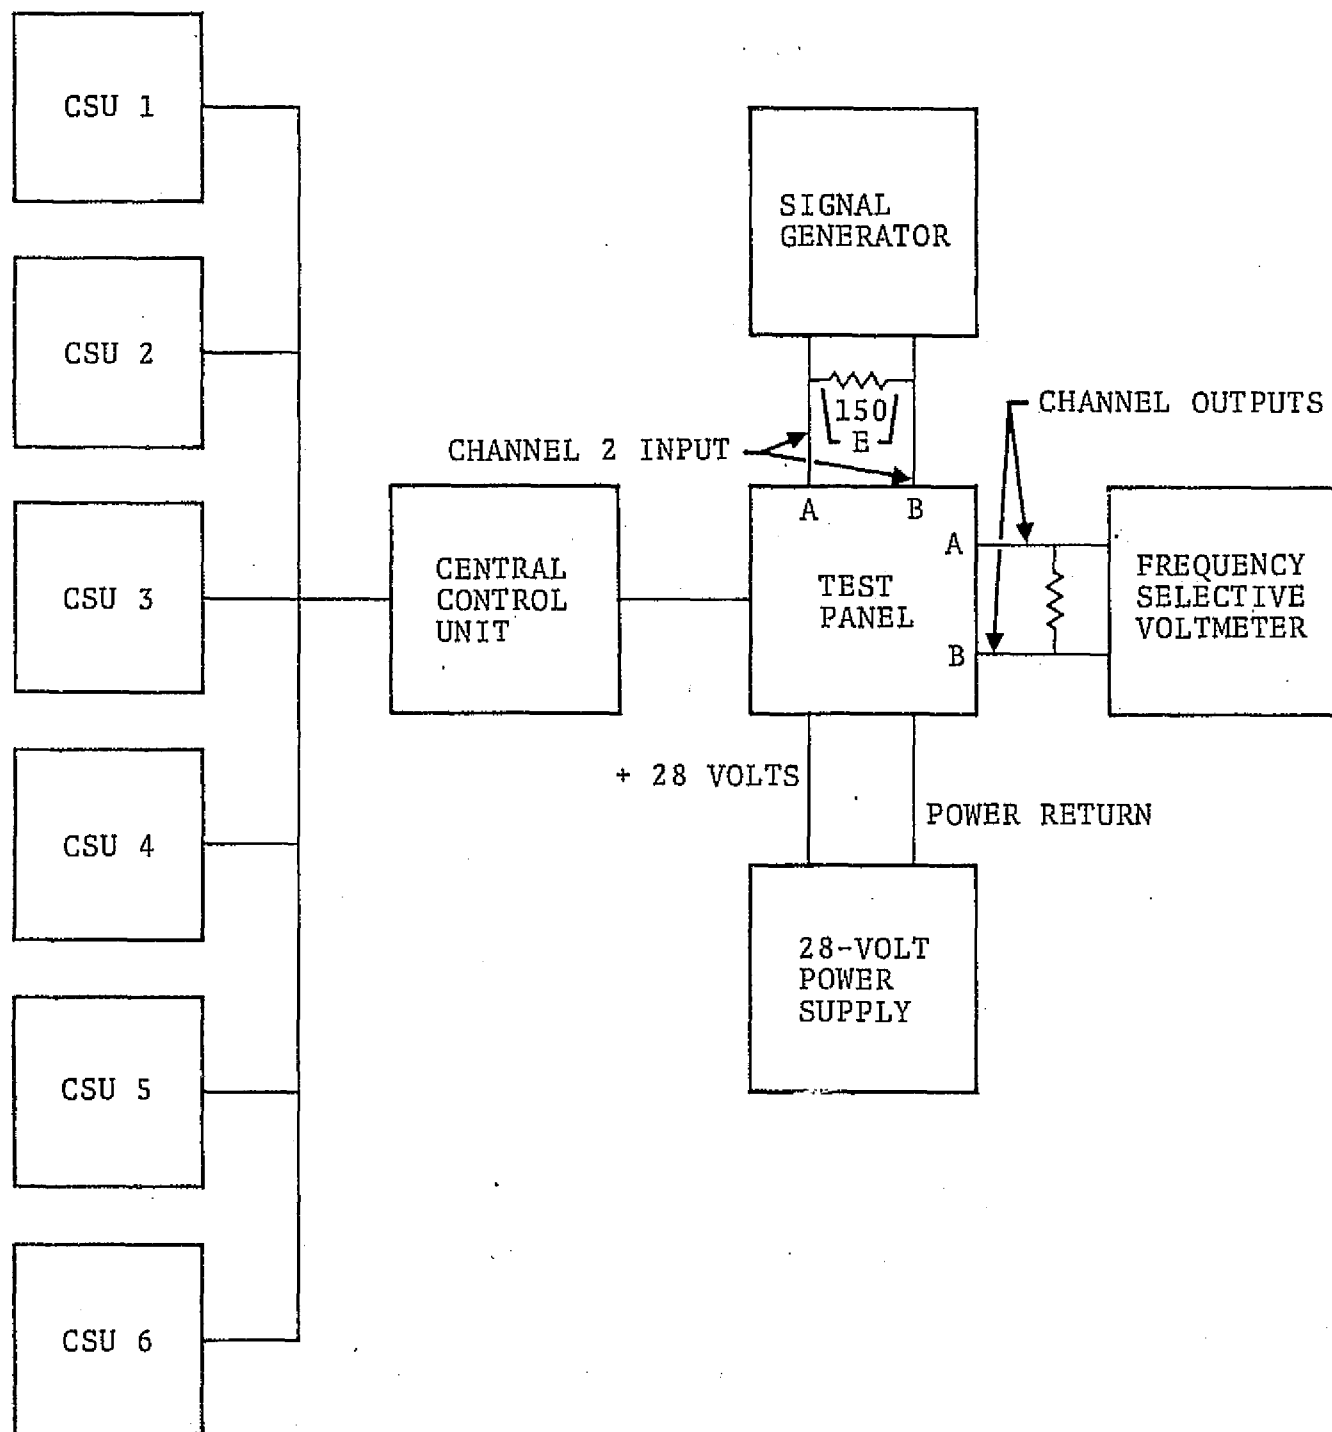

Figure 5-9. — Receive-to-transmit crosstalk test setup 2.
7. Connect the test equipment as shown in figure 5-9. Adjust the signal generator to obtain 1.5 volts rms, 1000 Hz, at E .